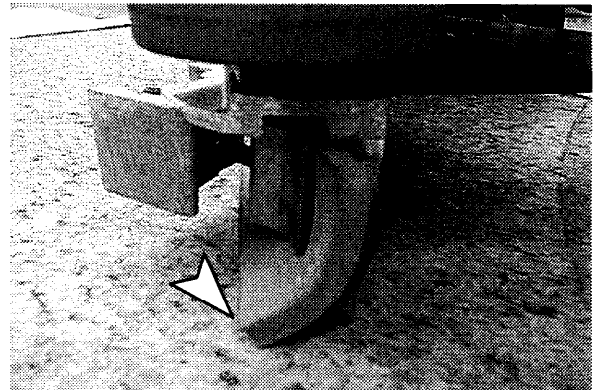

Figure 6
3. View squeegee blade deflection. Squeegee blade should slightly deflect evenly across the entire width of the squeegee as shown (Fig. 6).